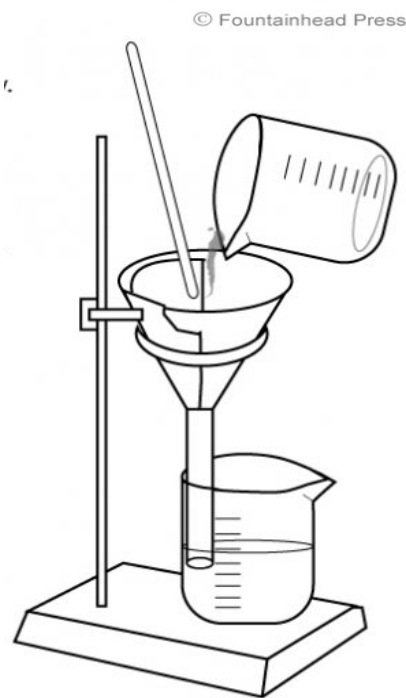

Figure 1. Gravity filtration apparatus
6. Carefully filter the warm solution using a glass filter funnel and filter paper to collect any insoluble impurities. Using a glass rod as a guide, pour the solution into the filter funnel as illustrated in Figure 1.